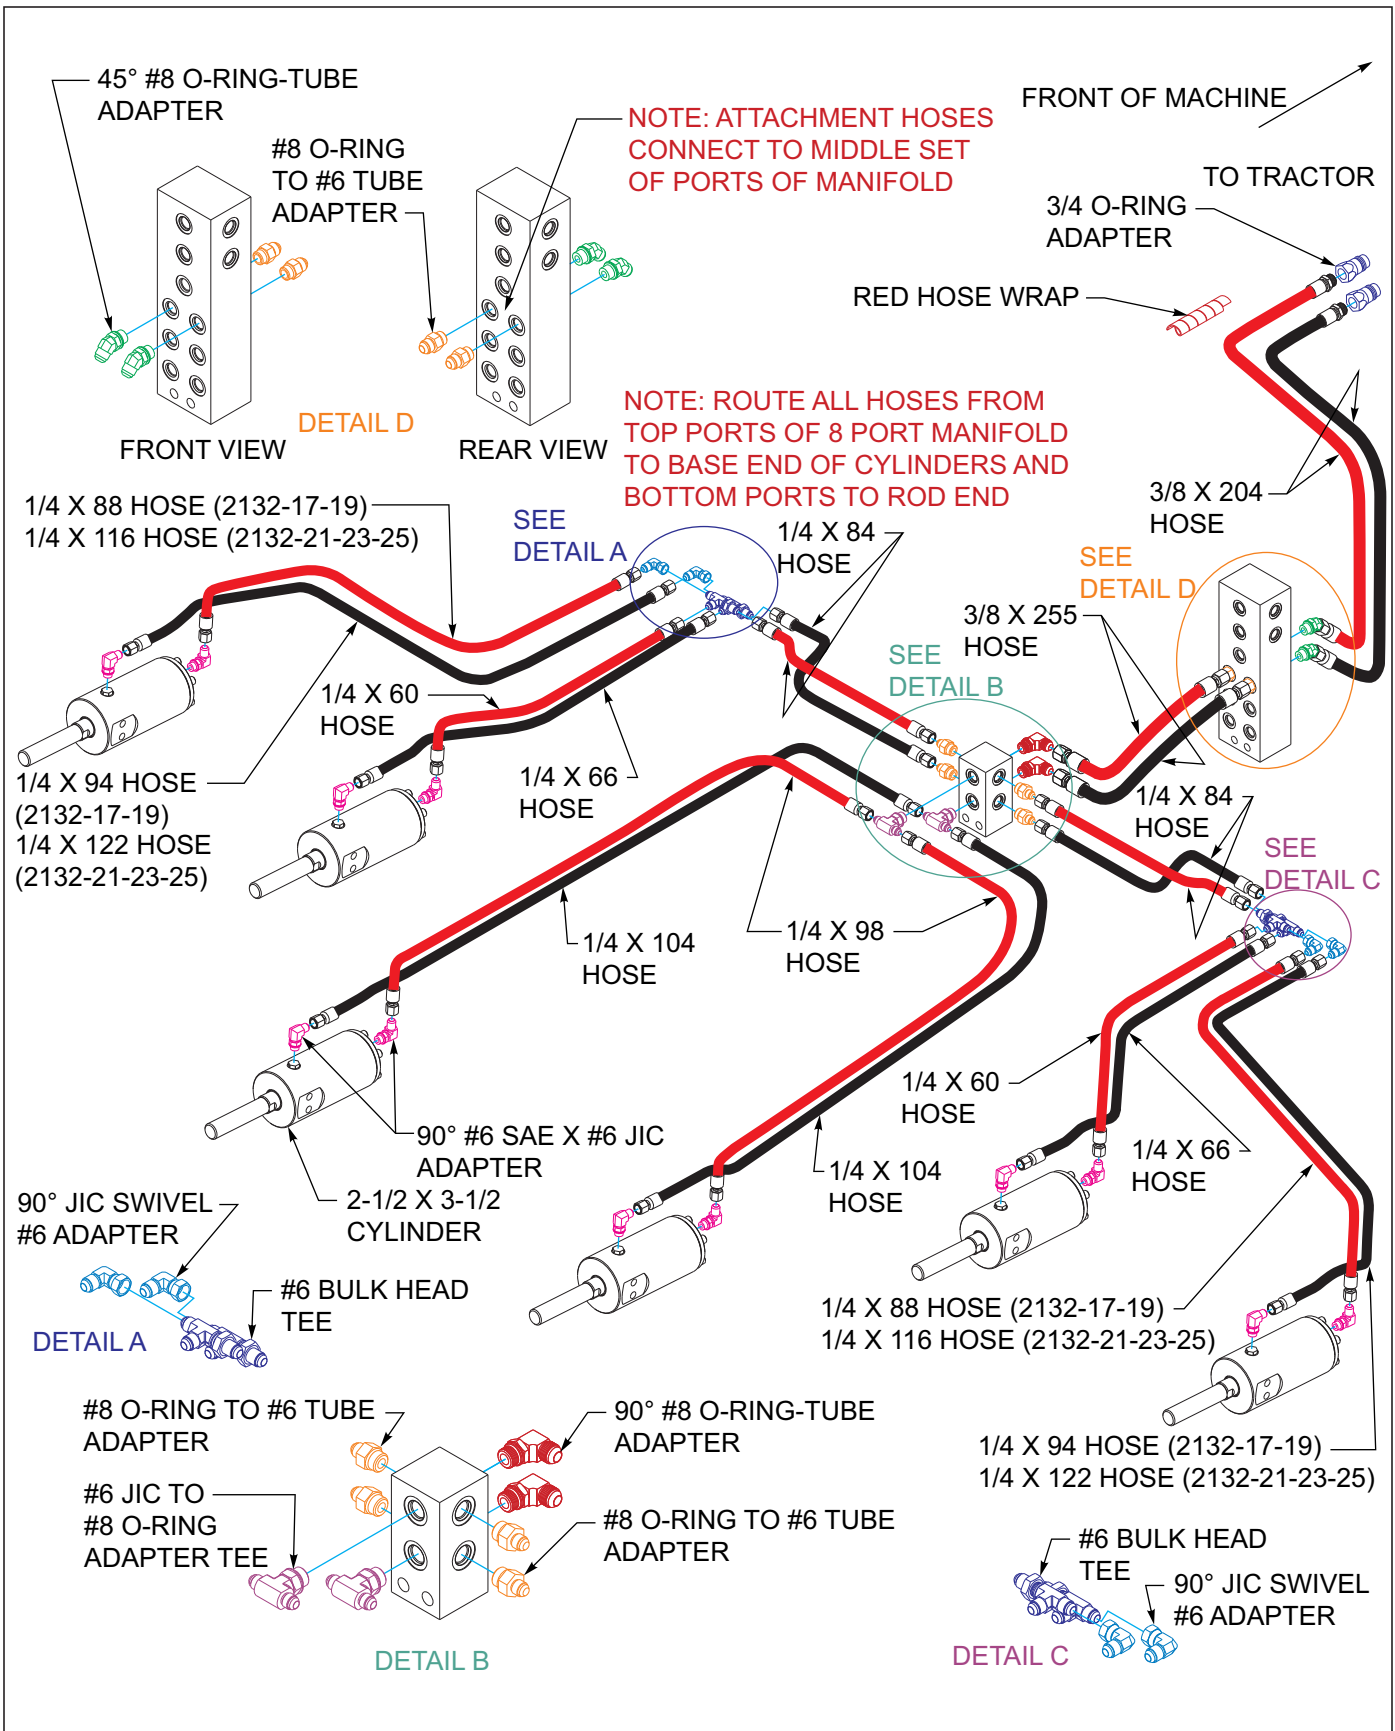
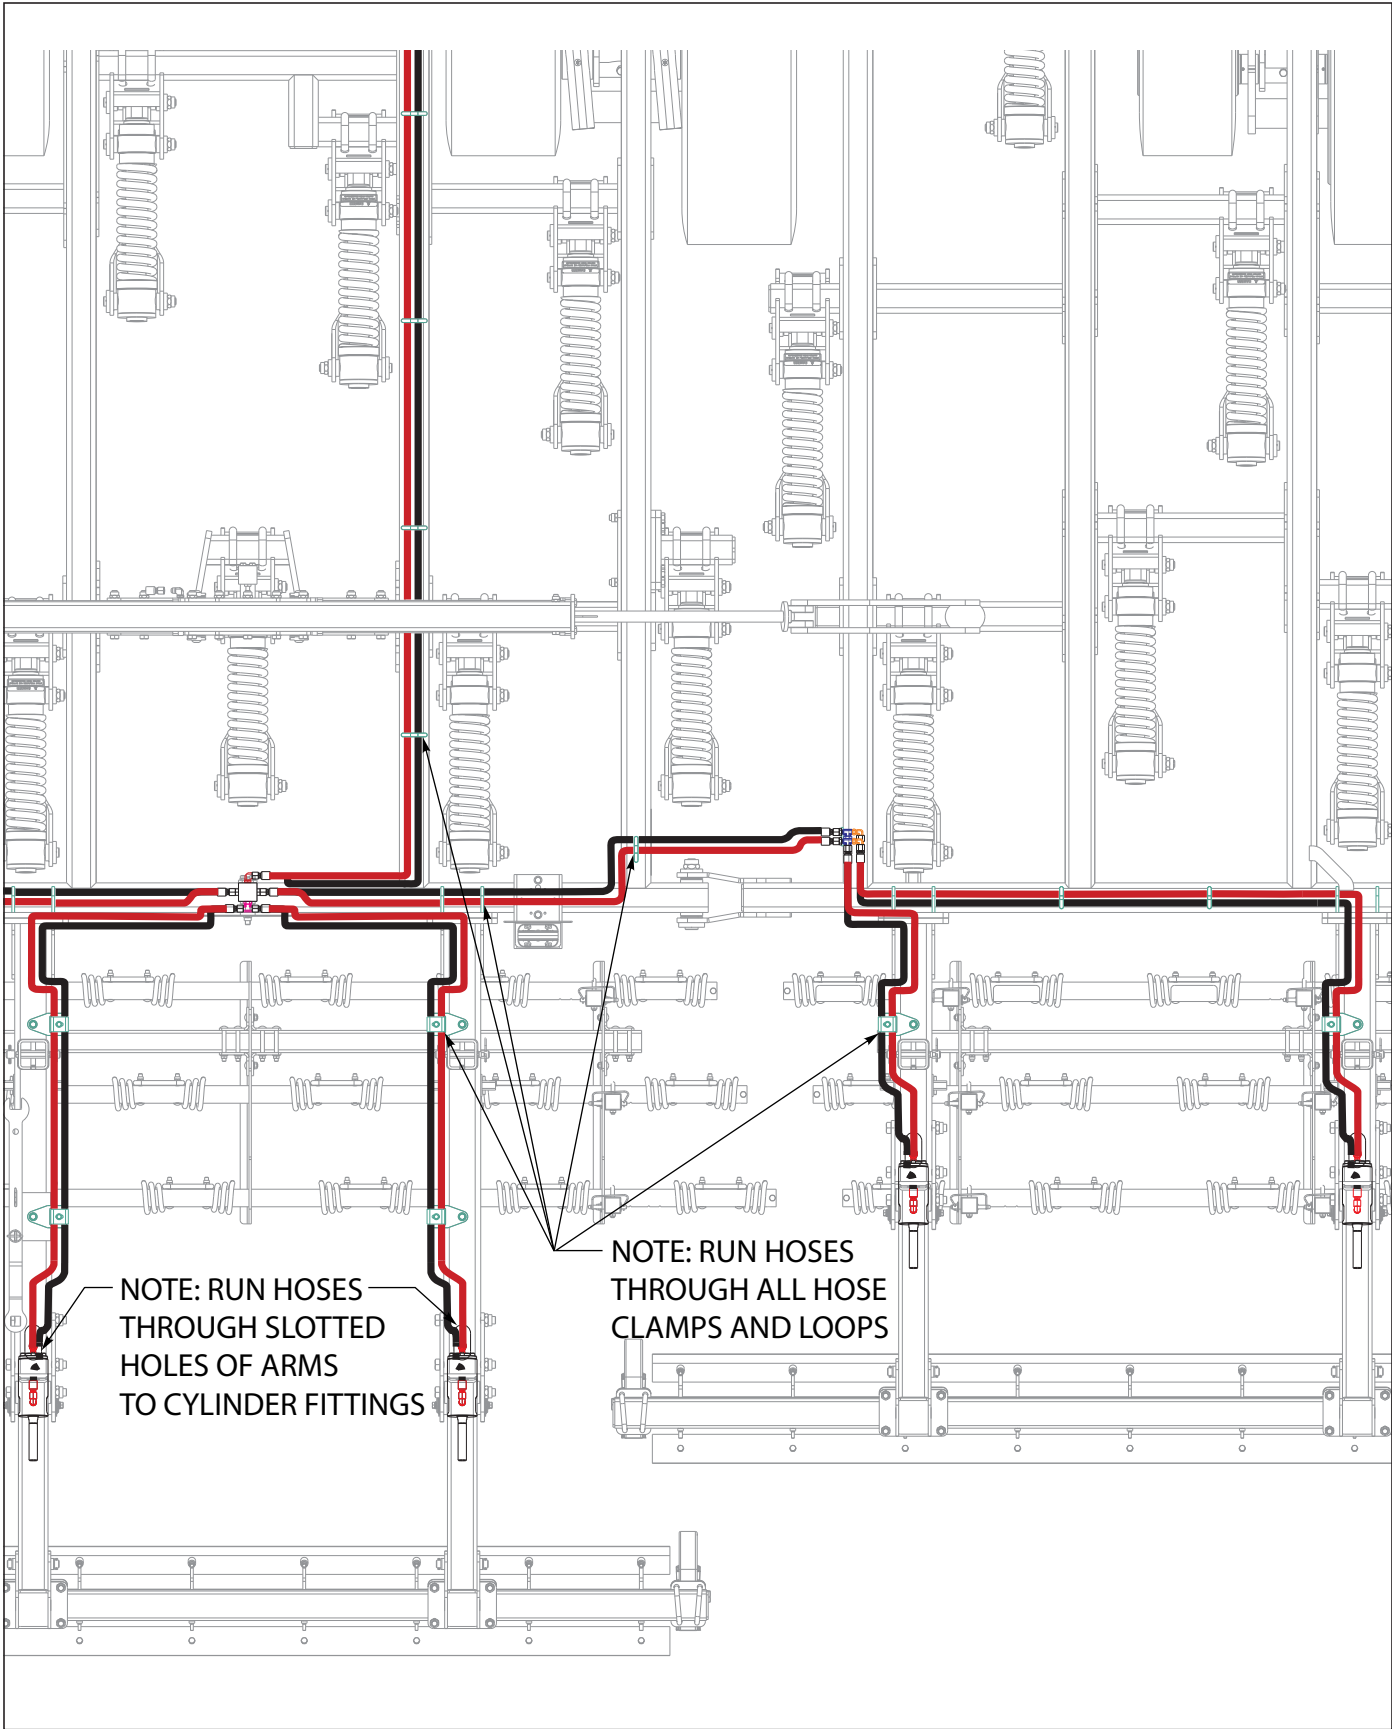

Figure 3-27: 3BCT/Chopper Hydraulic Installation
Figure 3-29: 3BCT/Chopper Hydraulic Layout RH
11. On hydraulic 3BCT/Chopper Reel option, See Figures 3-27 through See Figures 3-29 for proper hydraulic installation.